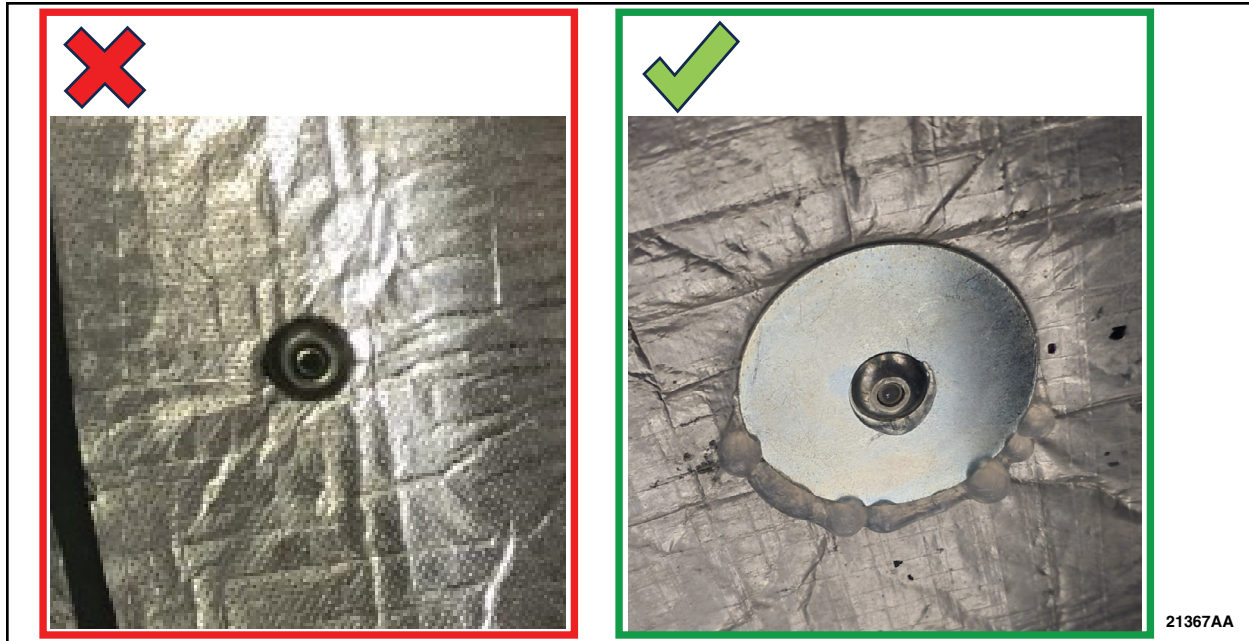

FIGURE 10
12. Using a 1/4" rivet gun, install the rivet and washer to the drilled hole. See Figure 10.